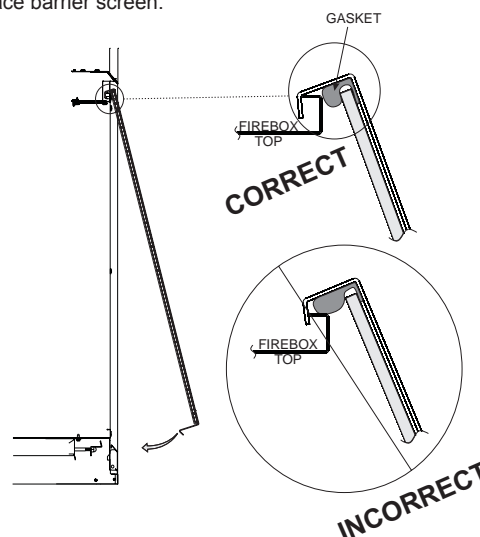

Figure 34
1. When installing the Glass Door assembly, make sure that the door top flange is hooked over the firebox top flange as illustrated in the "Correct" view in Figure 34.
**Important:** Do not allow the gasket across the top of the door to roll up on top of the firebox flange as shown in "Incorrect" view in Figure 34.